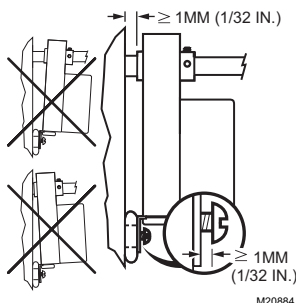

Fig. 6. Proper actuator mounting to prevent rotation.
4. With the actuator placed in its final position, fix the mounting tab in position with a 1/4 in. (6 mm) screw or pin. See Fig. 6.